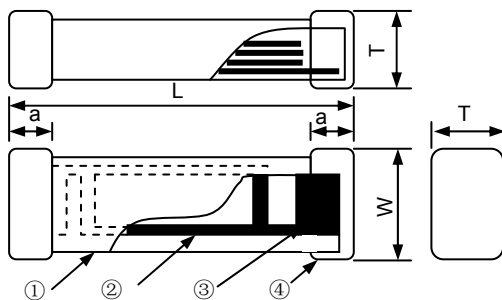
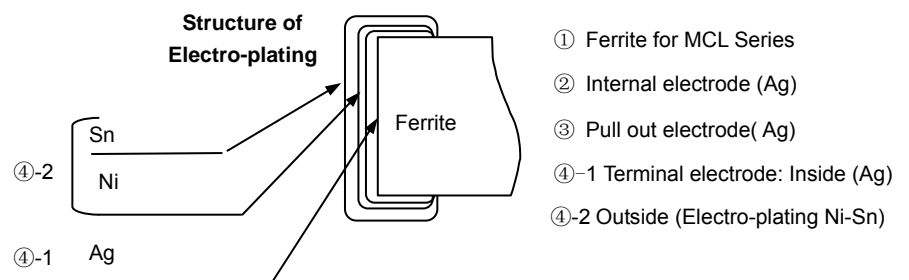

Fig. 4-3
Fig. 4-4
- 2) Structure: See **Fig. 4-3** and **Fig. 4-4**.